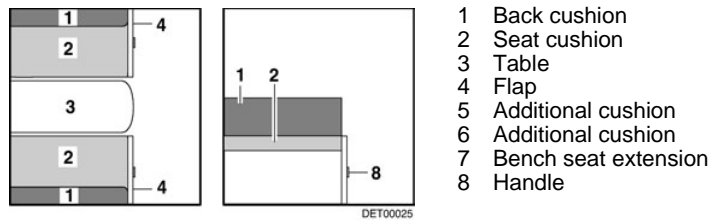

Fig. 31 Before extending
- Extend the table (Fig. 31,3) (see section 7.9).
- Pull on the handle (Fig. 31,8) and open the flap (Fig. 31,4).